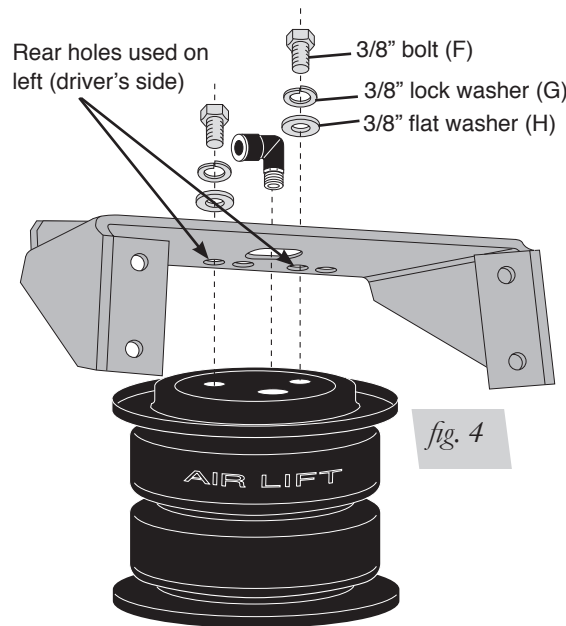

fig. 4
1. Set a roll plate (D) on both ends of the air spring (A). The radiused (rounded) edge of the roll plate will be towards the air spring, enabling the air spring to be seated in both roll plates (fig. 4).
2. Install a 90° elbow fitting (E) to the top of the air spring. Tighten finger tight plus 1 and ½ turns. Be careful to only tighten on the metal hex nut. Do not over tighten (fig. 4).
3. When installing the upper bracket (B) to the air spring and roll plate, use the rearward holes for the left (driver's side) installation. On the right (passenger's side) of the vehicle, continue to use the most rearward holes (fig. 4). The upper bracket is marked "L" and "R" on the top. Attach the assembly using two 3/8" bolts (F), lock washers (G), and flat washers (H). Tighten hardware to 20 ft/lbs.